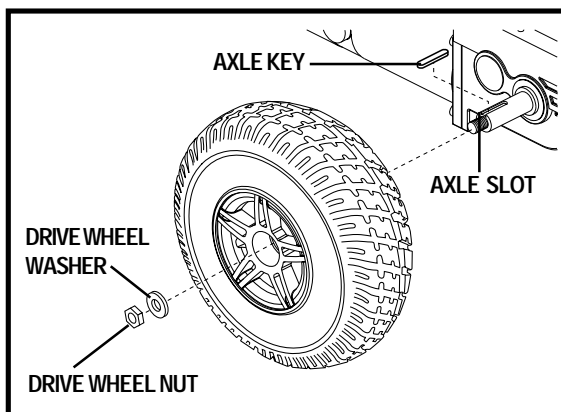

Figure 30. Drive Wheel
4. Remove the drive wheel nut and washer from the axle. See figure 30.